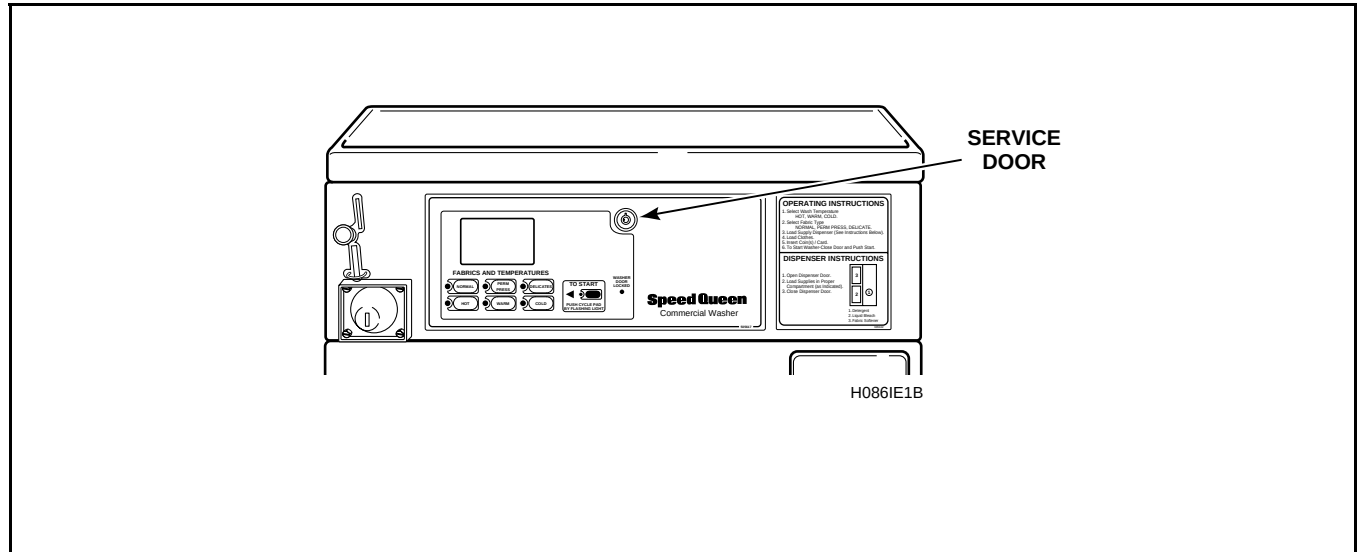

Figure 3
The service door is located in the control panel. See **Figure 3**.
2. Open the service door. See **Figure 3**.